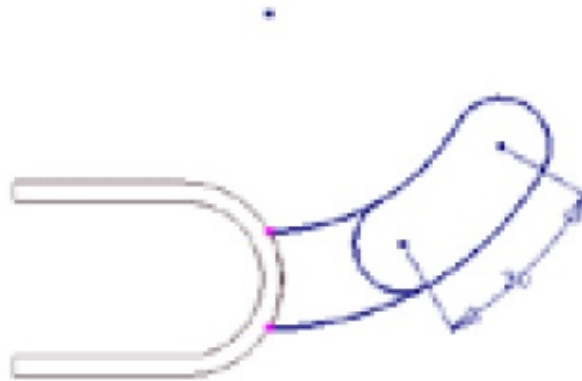

Figure 7-50 Sketch of the second join feature in the wireframe display
3. Draw the sketch of the second join feature on the XZ plane, as shown in Figure 7-50. After drawing the sketch, apply the **Concentric** and **Equal** constraints to it and to the existing feature.